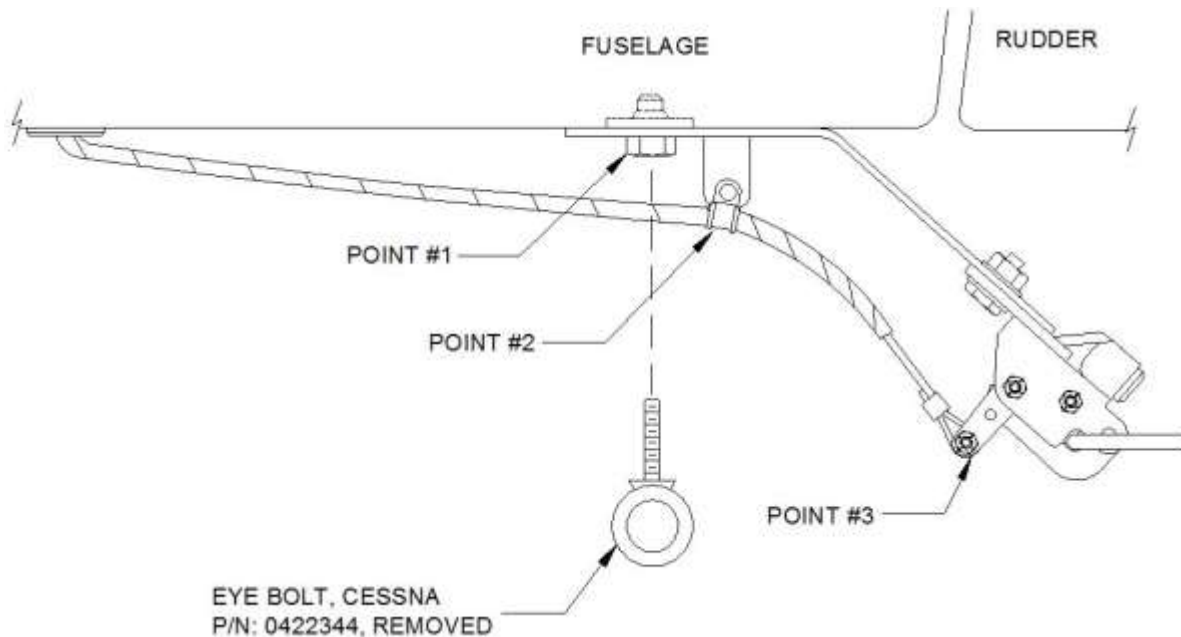

Figure 4.8: Tow Hook Installation on Cessna Models 150, 172, 175, 182, 205, and 210.
- (4) Cessna Models 150, 172, 175, 182, 205, and 210. Refer to Figure 4.8 for clarification.